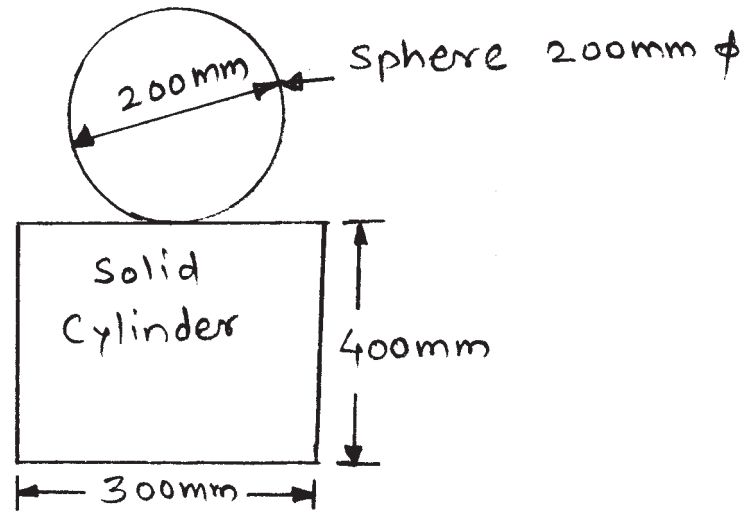

Fig. No. 10
- c) Calculate the centre of gravity of composite solid with respect to  $x$  and  $y$  - axis as shown in **Fig. No. 10**.